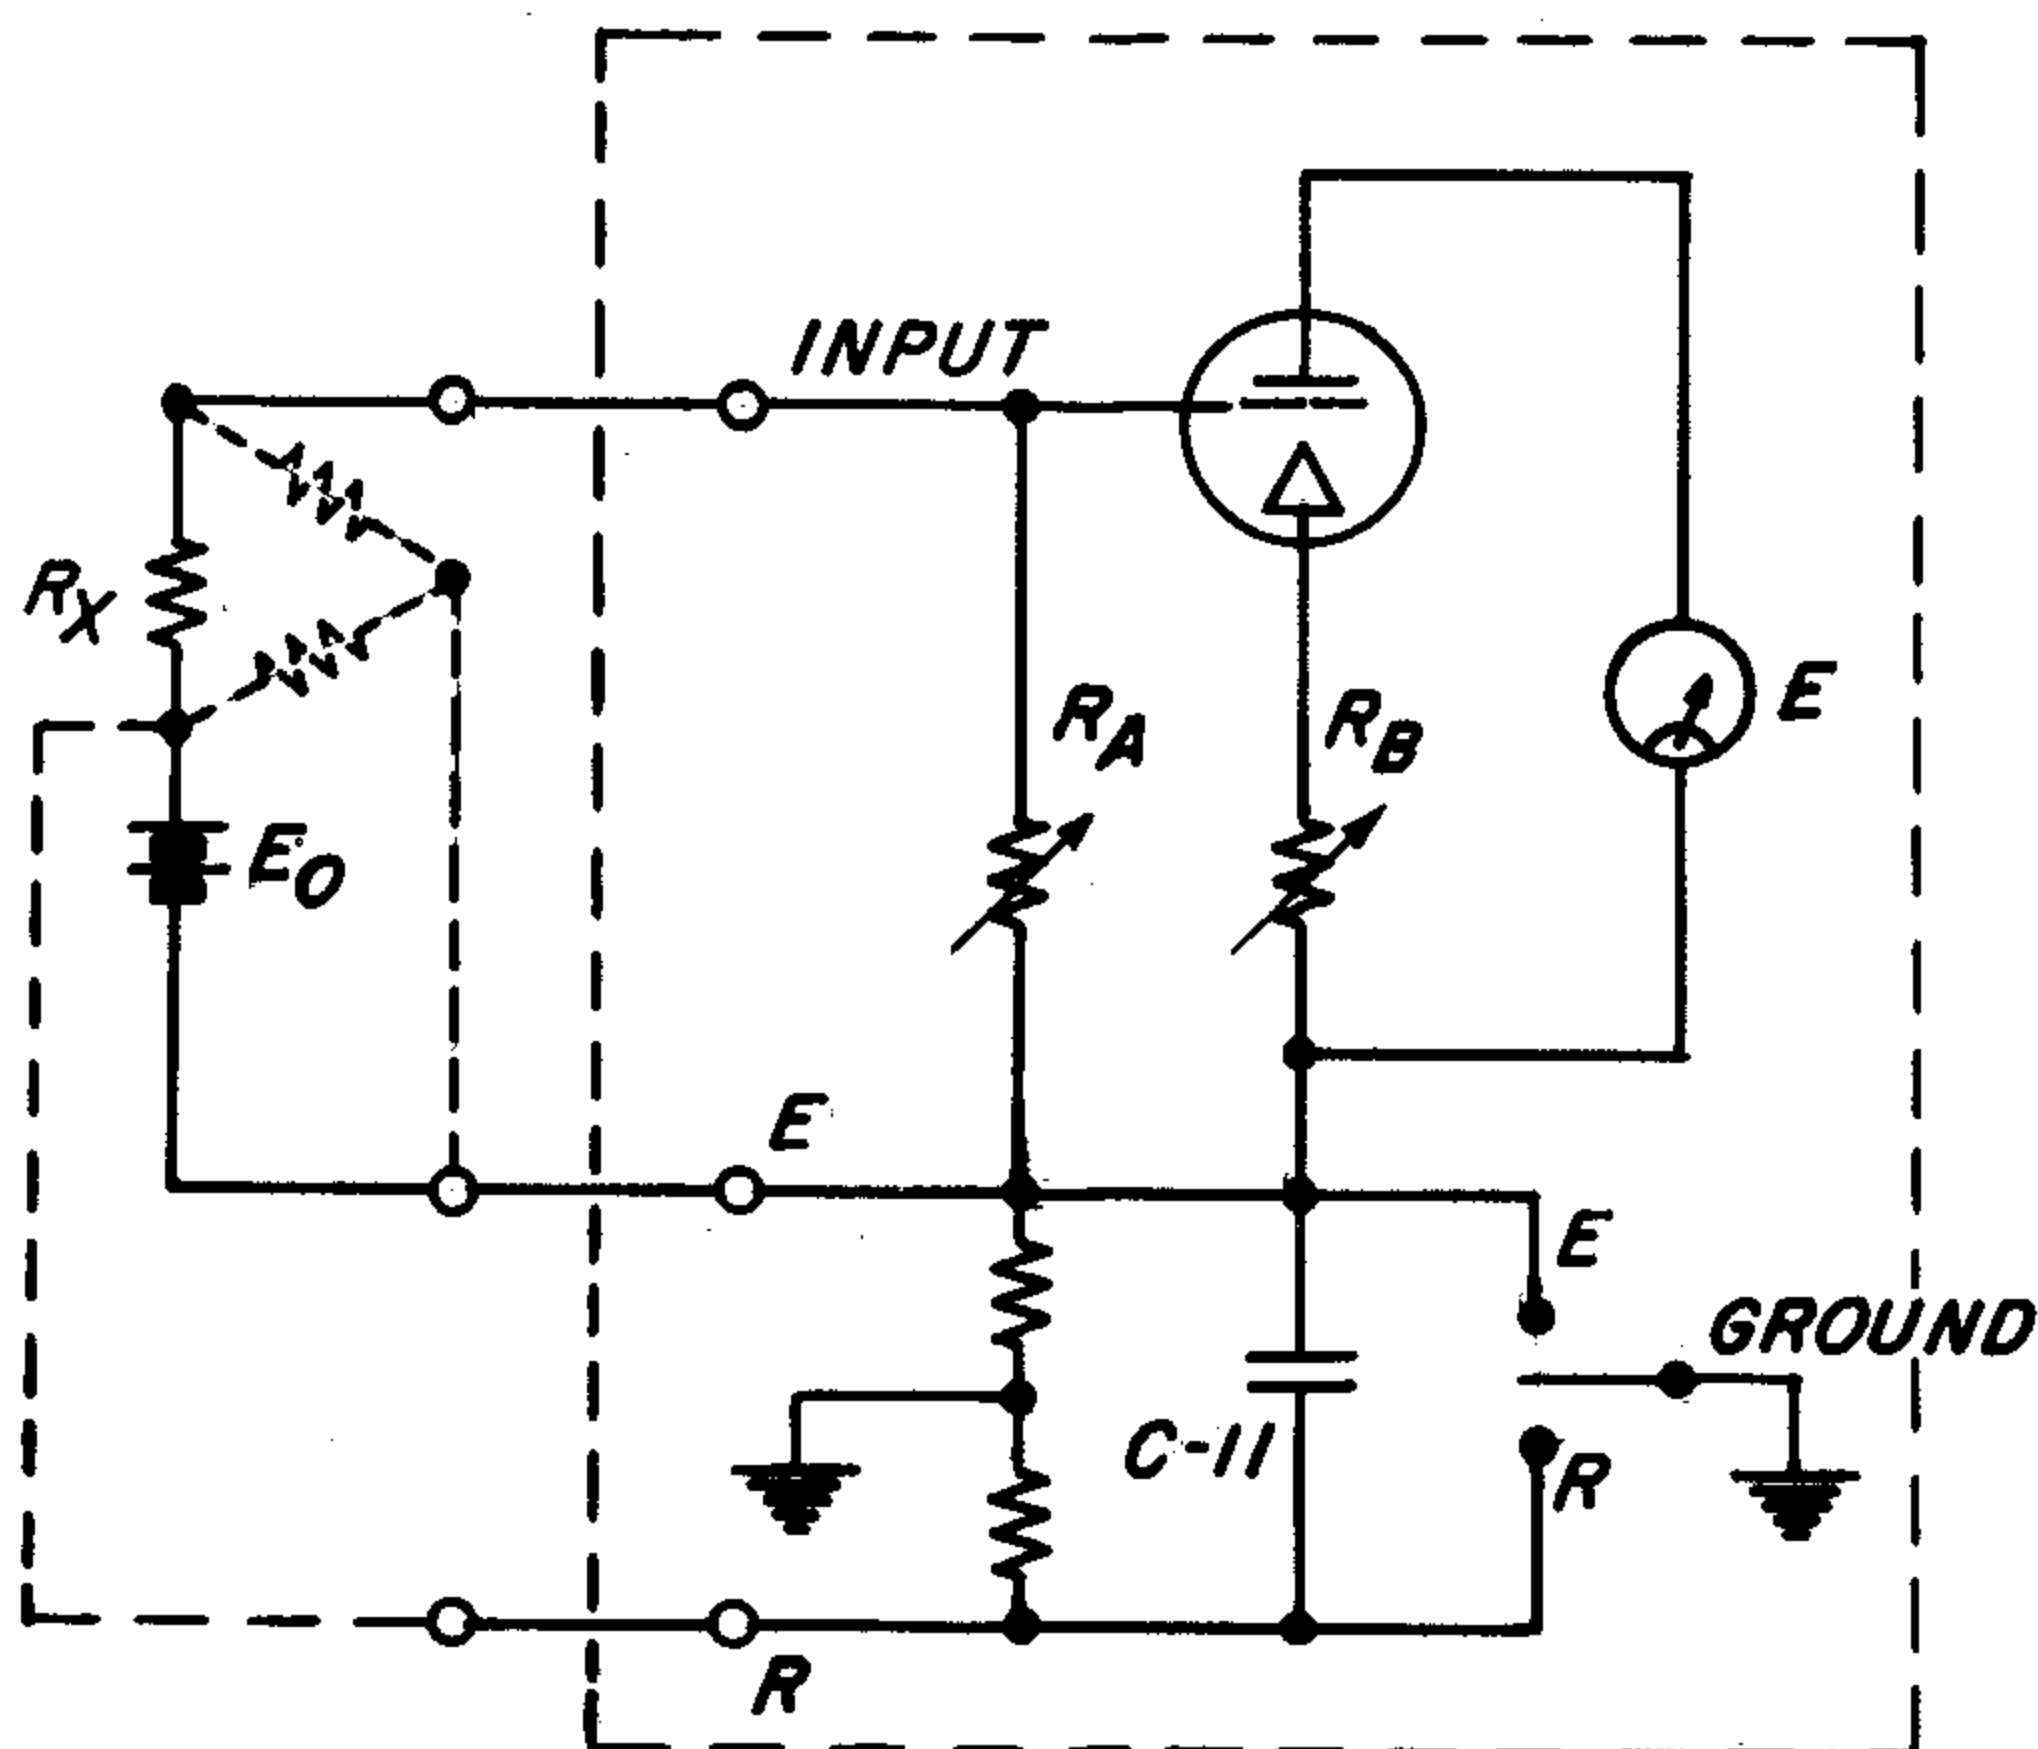

Figure 6. Resistance Measurement with External D-C Supply.
4.5.1 CONDITIONS OF MEASUREMENT. The external supply must be either batteries or a stabilized line-operated supply. See Figure 6.
ited to the 600-volt rating of C11 (Figure 6), a capacitor in the instrument. The unknown resistance must be capable of withstanding the full voltage of the supply.
b. Set the GROUND switch to R if the unknown is to be grounded, to E if the unknown is not to be grounded. In either case, note from Figure 6 that the external supply will be grounded. If the unknown resistance is grounded, instrument leakage from input to ground (about  $10^{14}$  ohms) will be across the unknown and therefore may affect the final reading. The actual leakage value can be determined from a preliminary measurement with the unknown resistance disconnected.
d. If the unknown resistance is to be grounded, connect the junction of the external d-c supply and the unknown resistance to the R terminal or to the ground terminal. If the unknown is a three-terminal resistance (shown dotted in Figure 6) connect the third terminal to the E terminal.